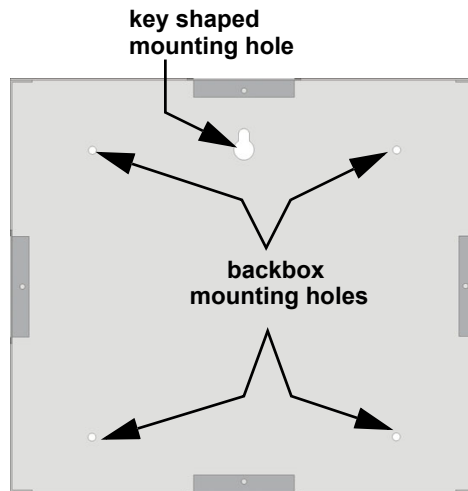

**Figure 4.14 Attaching Annunciator / Door Assembly to Backbox**
4. Attach the annunciator and door assembly to backbox as shown in Figure 4.14 using the supplied screws.
6. Attach the annunciator and door assembly to the backbox using screws provided (see Figure 4.14).
4. Attach the annunciator/ door assembly to backbox as shown in Figure 4.14 using the supplied screws.